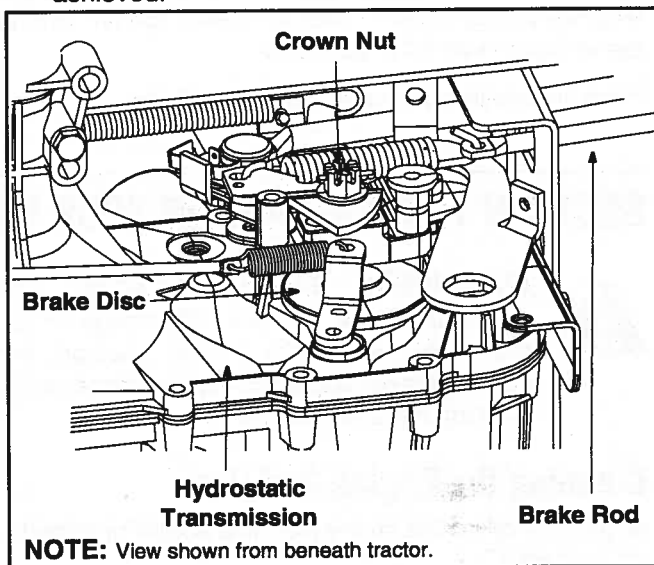

Figure 12
- Looking at the transmission from the right side of the tractor, locate the compression spring and brake disc. See Figure 12.